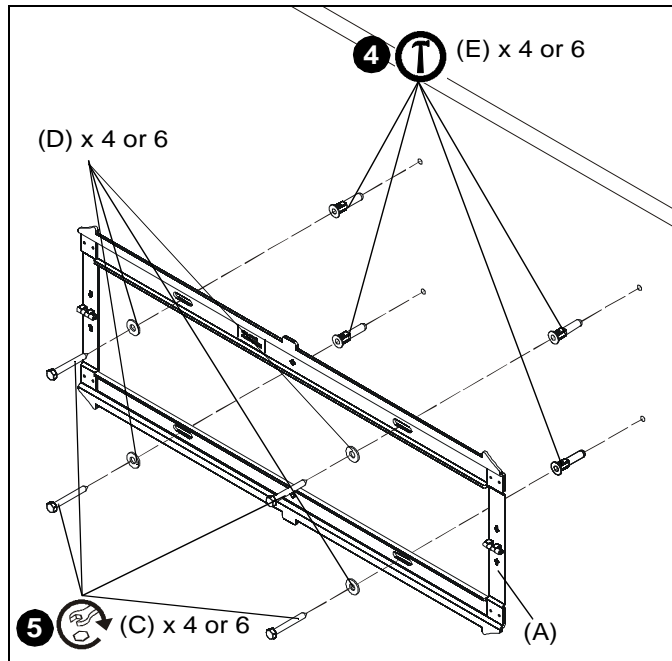

Figure 7
5. Using 1/2" (12.7mm) wrench, install screws (C) through flat washers (D), wall plate (A) and into concrete anchors (E). (See Figure 7)